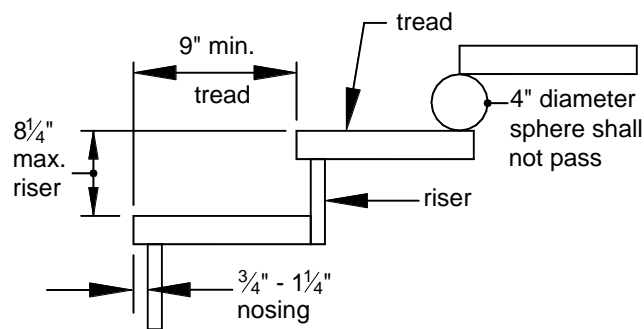

FIGURE 39: TREADS AND RISERS
- Stair geometry and opening limitations shall meet the requirements shown in FIGURE 39. Treads, risers and nosing dimensions shall not deviate at each step by more than $\frac{3}{8}$ inches.